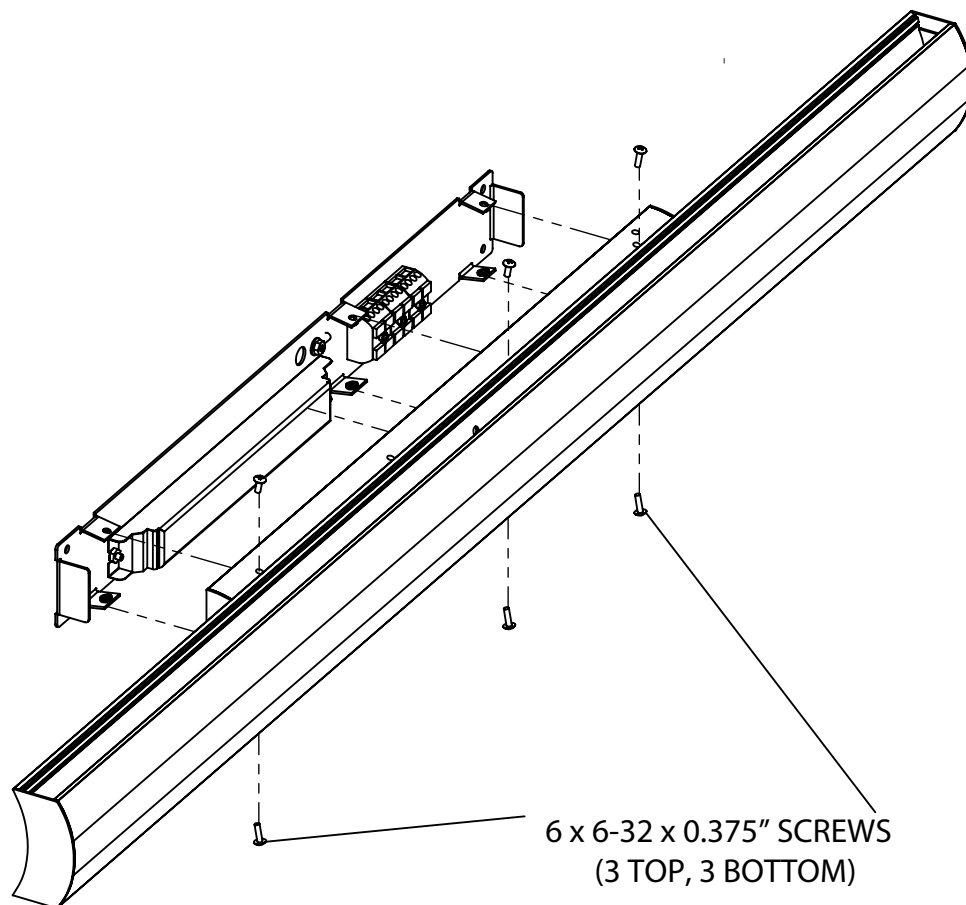

FIG. 4
4. USING THE 6x 6-32 x 0.375" SCREWS, FASTEN FRAME ONTO MOUNTING PLATE (FIG. 4)